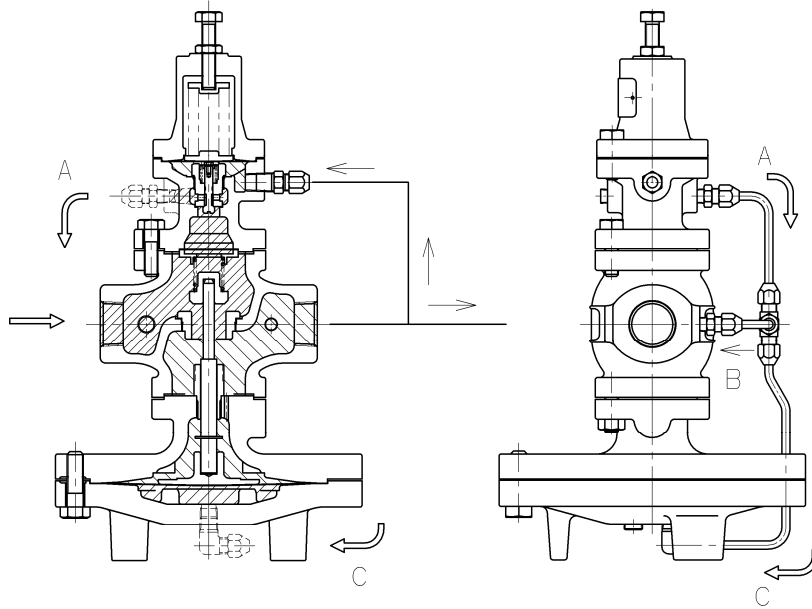

Fig. 4
- (4) Reduced pressure is led to the pilot diaphragm chamber [23]-1 via the sensing pipe and reduced pressure sensing port [56]. The pilot diaphragm receives the reduced pressure to be balanced with the spring load. The pilot valve travel is controlled by the spring load and pressure applied to the pilot diaphragm due to variations in reduced pressure. This changes the flow rate of fluid to the main diaphragm chamber, which controls the main valve travel to obtain appropriate reduced pressure. (Fig. 4)